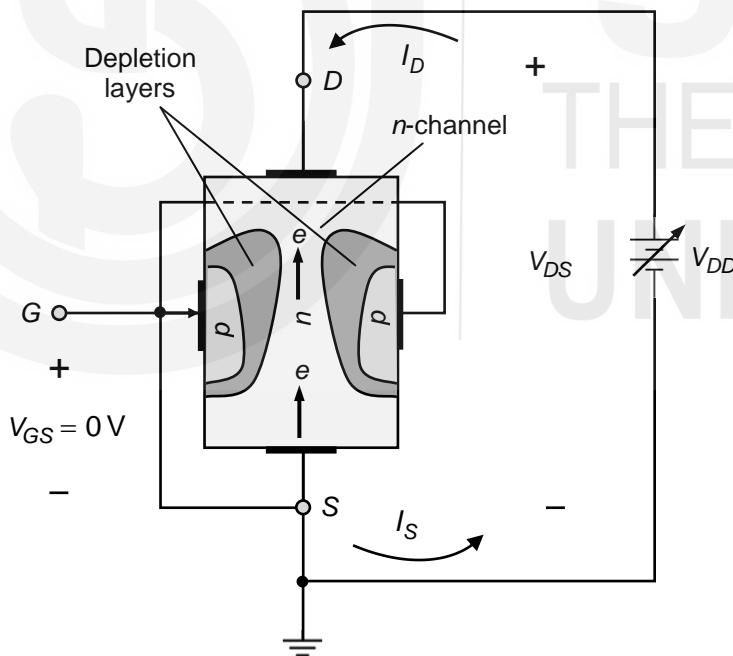

Fig. 3.9: Working of JFET when $V_{DS} > 0$ and $V_{GS} = 0$ V.
Refer to Fig. 3.9, which shows an *n*-channel JFET. We first consider the case when a positive voltage (V_{DS}) is applied to the drain with respect to the source and the gate is connected directly to the source so that the voltage V_{GS} between the gate and source is zero:
Now what happens when the drain is biased positively with respect to the source by a battery or power supply (V_{DD})? Electrons in the *n*-channel move towards the drain since it is positively biased. This results in the flow of drain current in the direction shown in Fig. 3.9. The flow of electrons is unhindered in the channel and hence, the source current is equal to the drain current when V_{GS} is zero.
Also note from Fig. 3.9 that the *p-n* junctions are reverse biased in this case. You can see that the *p*-regions are negatively biased with respect to the *n*-region near the drain because the gate terminal is connected to the source terminal, which is negatively biased with respect to the drain. So, virtually no electrons move to the gate and the gate current is zero. Thus, we have:
Now did you note in Fig. 3.9 that the depletion layers of the $p-n$ junctions are wider towards the drain end as compared to the source end? You may like to know: **Why is it so?**
Therefore, **the depletion layers are much wider near the drain end and extend more into the channel in comparison with the source end**. This is how we get the **wedge shape of the n-channel** shown in Fig. 3.9.
- Draw the circuit diagram analogous to Fig. 3.9 for a *p*-channel JFET for $V_{GS} = 0$ V.